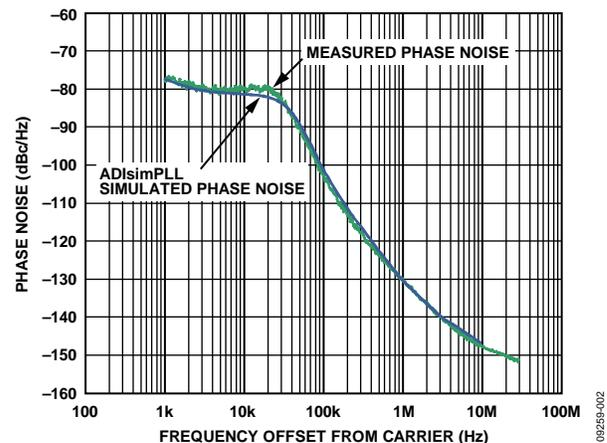
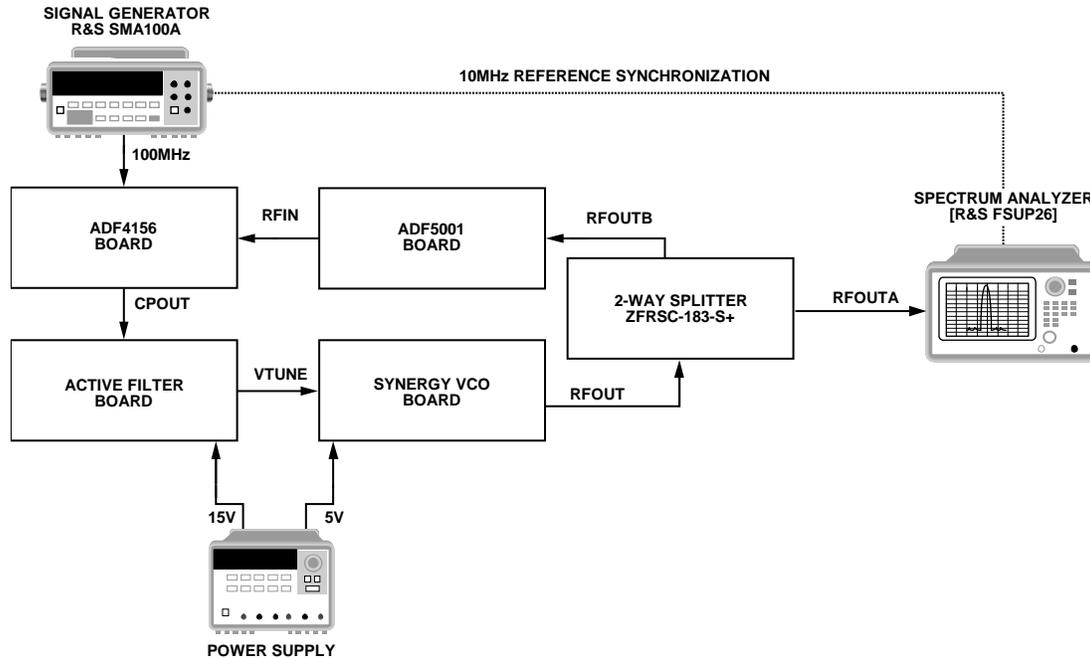

Figure 2. Measured vs. Simulated Phase Noise Performance of the 12 GHz PLL
Figure 3. Measurement Circuit
The settings used for the circuit are given in Table 1. Measured results are shown in Figure 2 versus the simulated performance as predicted by ADIsimPLL. As can be seen the results agree quite well. The measured integrated phase noise is 0.35 ps rms. The measurement setup is shown in Figure 3.
- Changes to Figure 2 2